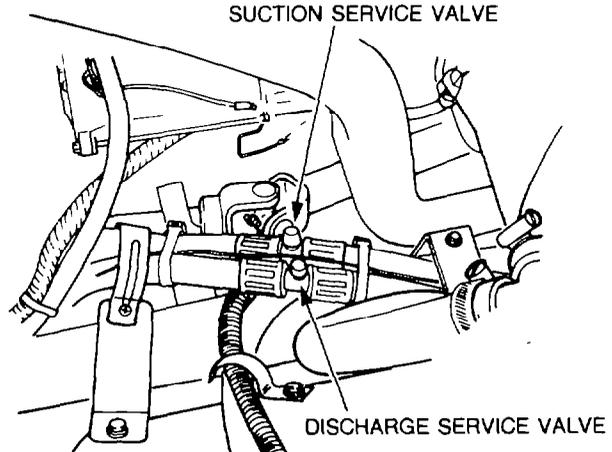

Figure 39 — Suction and Discharge Service Valves — Location
- a. Clean around the suction and discharge hoses located in the engine compartment (see Fig. 39) with a suitable cleaning agent, then blow dry using compressed air.